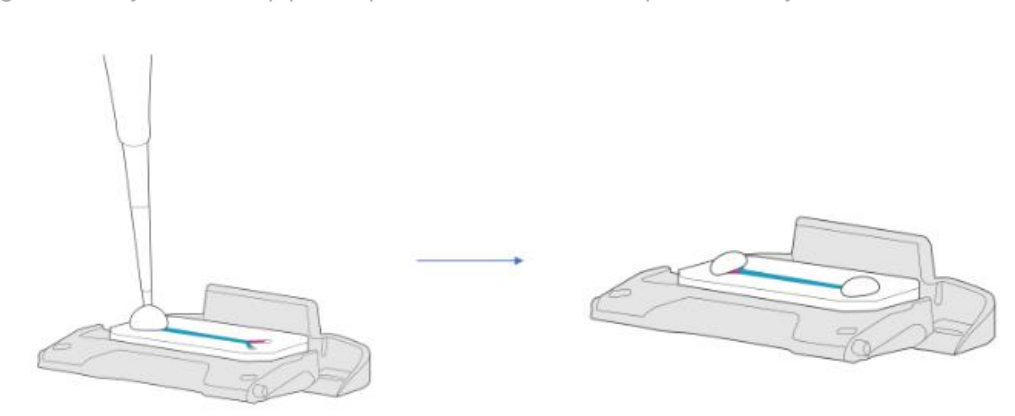

Figure 6: Chip with medium drops covering the inlet and outlet ports
4. Once attached, perform a gravity wash by adding 200  $\mu$ L of seeding media onto the inlets of the chip, ensuring media flows through the channel outlets (See Figure 6). If media does not flow through, carefully insert the pipette tip into both channels to push out any bubbles.